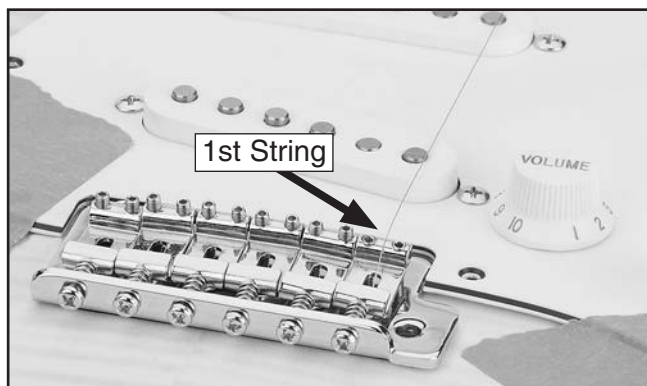

Figure 30. 1st string installed.
2. Guide the string through the tremolo bridge, across the saddle (**Figure 30**), over the nut, and through the hole in the corresponding tuning post.